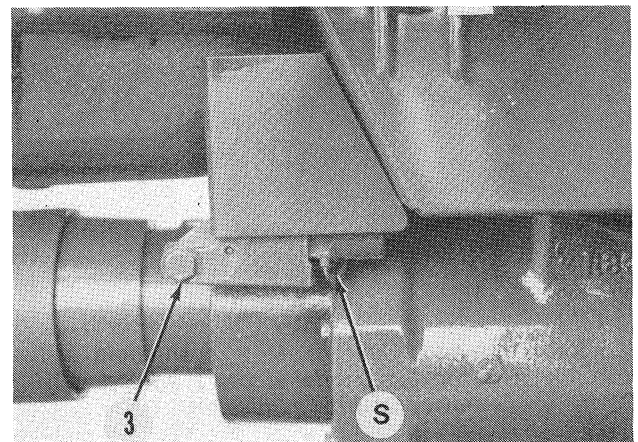
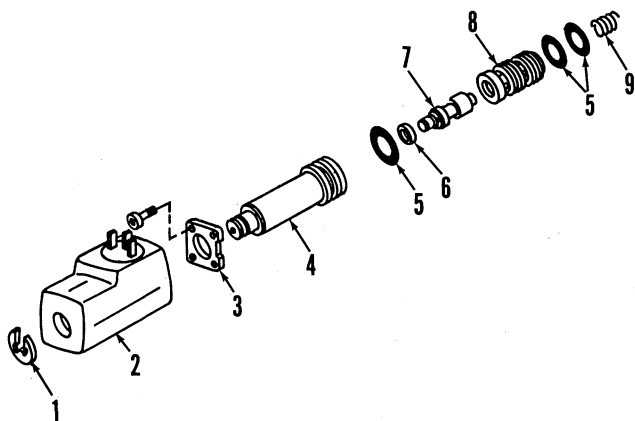
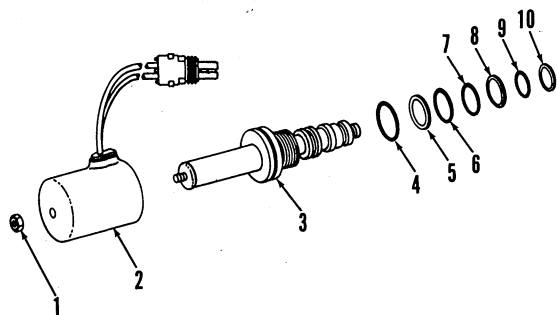

Fig. 5—Install a 300 psi (2000 kPa) gage at MFWD clutch test port (3) to check clutch hydraulic pressure. Refer to text.
Fig. 6—Exploded view of MFWD solenoid valve assembly used on early Power Shift tractors and all Quad-Range tractors.
Fig. 6A—Exploded view of MFWD solenoid valve assembly used on late model tractors equipped with Power Shift transmission.
stall another 300 psi (2000 kPa) pressure gage at MFWD clutch test port (3—Fig. 5). Note that MFWD test port may have standard or metric threads. If 5/8 inch wrench is used to remove plug, threads are standard. If a 3/4 inch wrench is used to remove plug, threads are metric. With engine running at 1000 rpm and MFWD switch "OFF," difference between system pressure and clutch pressure should not be more than 20 psi (140 kPa). If clutch pressure is low, the solenoid valve could be sticking or oil may be leaking past clutch shaft or piston sealing rings. With engine at 1000 rpm and MFWD switch "ON," there should be no pressure at clutch test port. If there is pressure to clutch unit, solenoid valve is defective.
6. To remove solenoid valve assembly (S—Fig. 5), disconnect wiring connector. Remove retaining ring or nut from end of electrical coil, then withdraw coil assembly (2—Fig. 6 or 6A). On late model tractors with Power Shift transmission, remove valve assembly (3—Fig. 6A) from clutch housing. On early model Power Shift tractors and all tractors equipped with Quad-Range transmission, remove screws securing retainer plate (3—Fig. 6) and pull insert (4) from housing. Remove valve spool (7), spring (9) and sleeve (8).
Illustrations for Fig. 6 & Fig. 6A reproduced by permission of Deere & Company. Copyright Deere & Company.